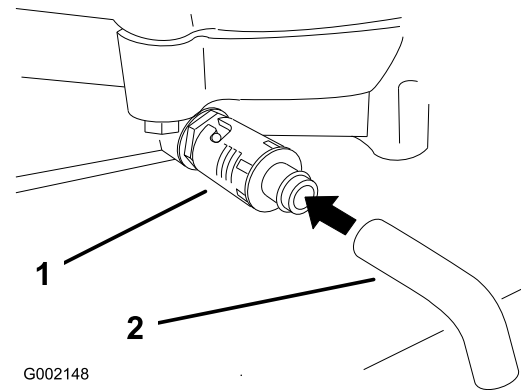

Figure 32
5. Place a pan below the drain. Rotate oil drain valve to allow oil to drain (Figure 32).